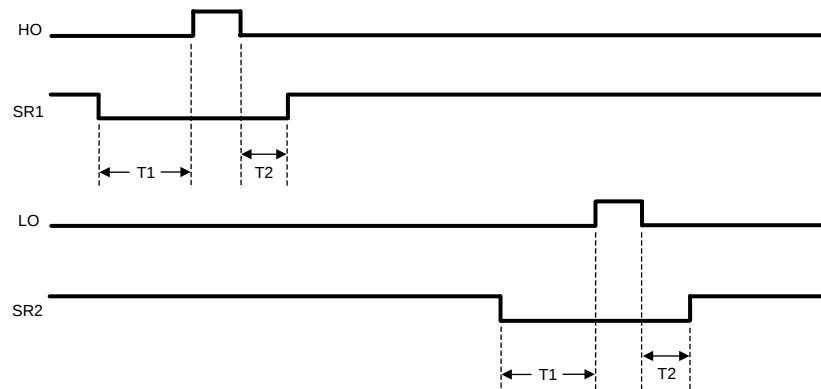

Figure 15. HO, LO, SR1 and SR2 Timing Diagram
Synchronous rectification (SR) of the transformer secondary provides higher efficiency, especially for low output voltage converters. The reduction of rectifier forward voltage drop (0.5V - 1.5V) to 10mV - 200mV V_{DS} voltage for a MOSFET significantly reduces rectification losses. In a typical application, the transformer secondary winding is center tapped, with the output power inductor in series with the center tap. The SR MOSFETs provide the ground path for the energized secondary winding and the inductor current. Figure 15 shows that the SR2 MOSFET is conducting while HO enables power transfer from the primary. The SR1 MOSFET must be disabled during this period since the secondary winding connected to the SR1 MOSFET drain is twice the voltage of the center tap. At the conclusion of the HO pulse, the inductor current continues to flow through the SR1 MOSFET body diode. Since the body diode causes more loss than the SR MOSFET, efficiency can be improved by minimizing the T2 period while maintaining sufficient timing margin over all conditions (component tolerances, etc.) to prevent shoot-through current. When LO enables power transfer from the primary, the SR1 MOSFET is enabled and the SR2 MOSFET is off.
The timing of SR1 and SR2 with respect to HO and LO is shown in Figure 15. SR1 is configured out of phase with HO and SR2 is configured out of phase with LO. The deadtime between transitions is programmable by a resistor connected from the DLY pin to the AGND pin. Typically, R_{DLY} is set in the range of 10kΩ to 100kΩ. The deadtime periods can be calculated using the following formulae:
The R_{DLY} resistor programs the delays between the SR1 and SR2 signals and the HO and LO driver outputs. Figure 15 shows the relationship between these outputs. The DLY pin is nominally set at 2.5V and the current is sensed through R_{DLY} to ground. This current is used to adjust the amount of deadtime before the HO and LO pulse (T1) and after the HO and LO pulse (T2). Typically R_{DLY} is in the range of 10kΩ to 100kΩ. The deadtime periods can be calculated using the following formulae: